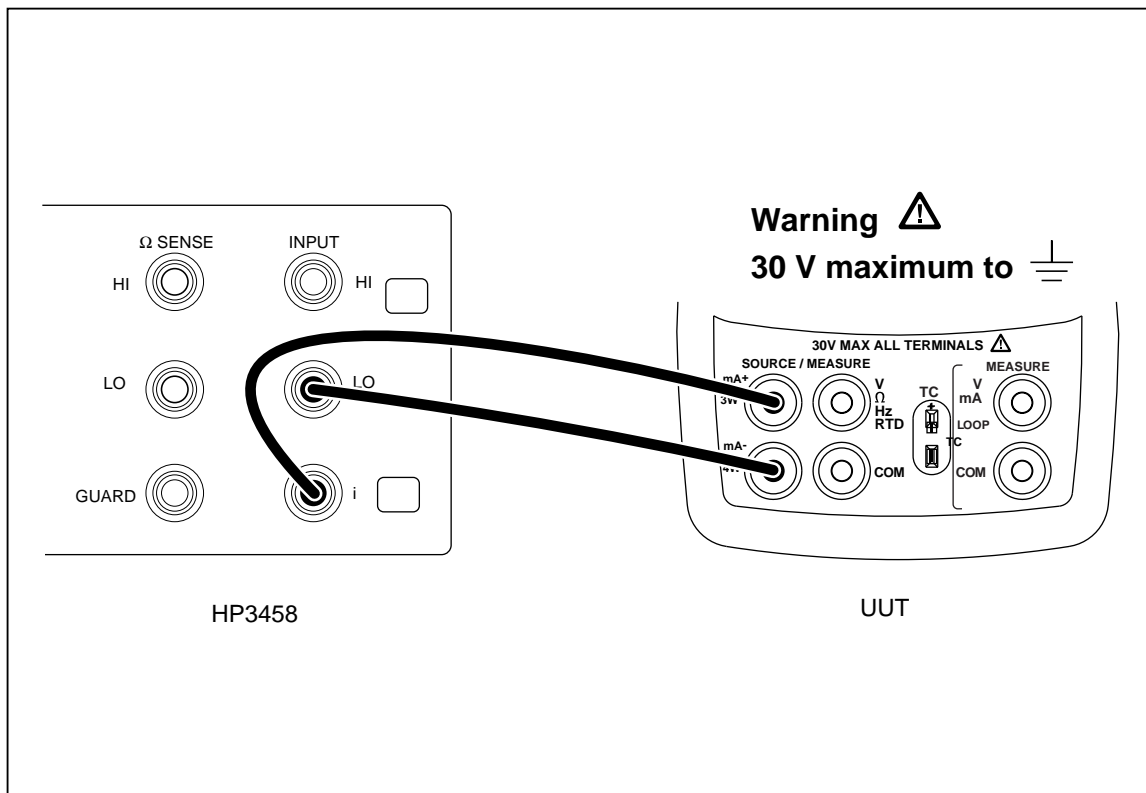

Figure 11. Lower Display mA Source Connections
3. Connect the UUT and the HP 3458A as shown in Figure 11.